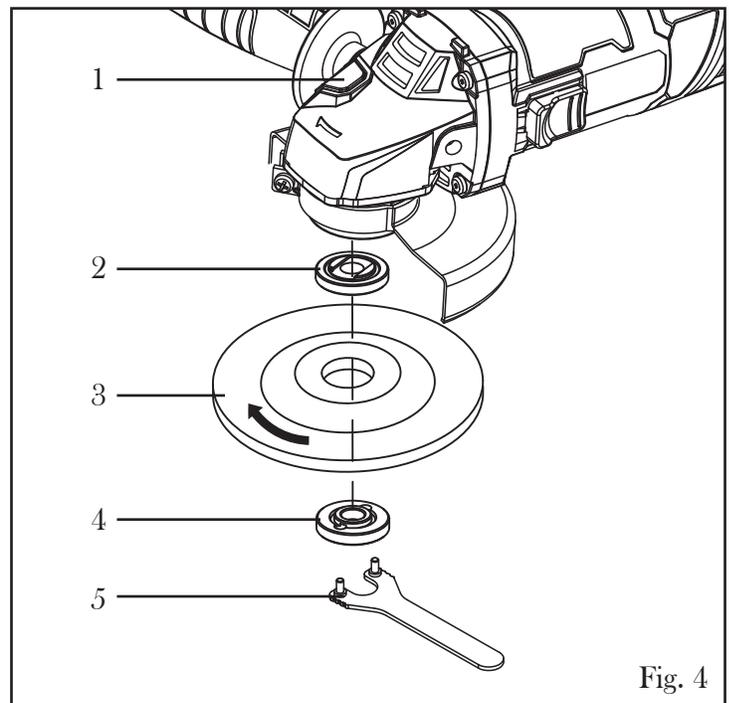
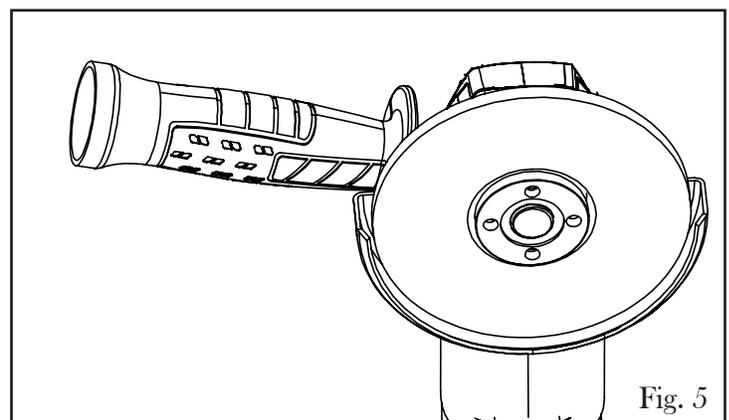

Fig. 4
Fig. 5
GRINDING WHEEL ASSEMBLY (Fig. 4 & 5)
2. Place the inner flange (Fig. 4 - 2) onto the spindle first so that the grooves align with the spindle nut.
3. Next, slide the grinding wheel (Fig. 4 - 3) onto the spindle. Make sure the direction arrow (clockwise) on the wheel matches the arrow on the front housing.
4. Screw the outer flange (Fig. 4 - 4) into place. The outer flange should fit snugly into the center of the grinding wheel (Fig. 5).
5. Tighten the outer flange in place using the supplied lock nut wrench (Fig. 4 - 5) while pressing down the spindle lock (Fig. 4 - 1) to keep the spindle from rotating.